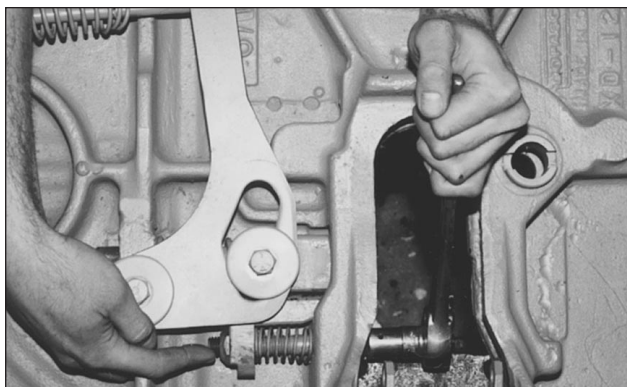

FIGURE 10
2. Coat the threads of the Allen head cap screw (3) with Never-Seez and install through the hole located in the throat of the casting.
3. Install the compression spring (4) over the cap screw.
4. Next, slide wedge (5) along plunger, compress spring and install the $\frac{5}{8}$ " locknut (6). Tighten the cap screw with a $\frac{1}{2}$ " Allen wrench until the nut is flush with the end of the bolt (see Figure 10).